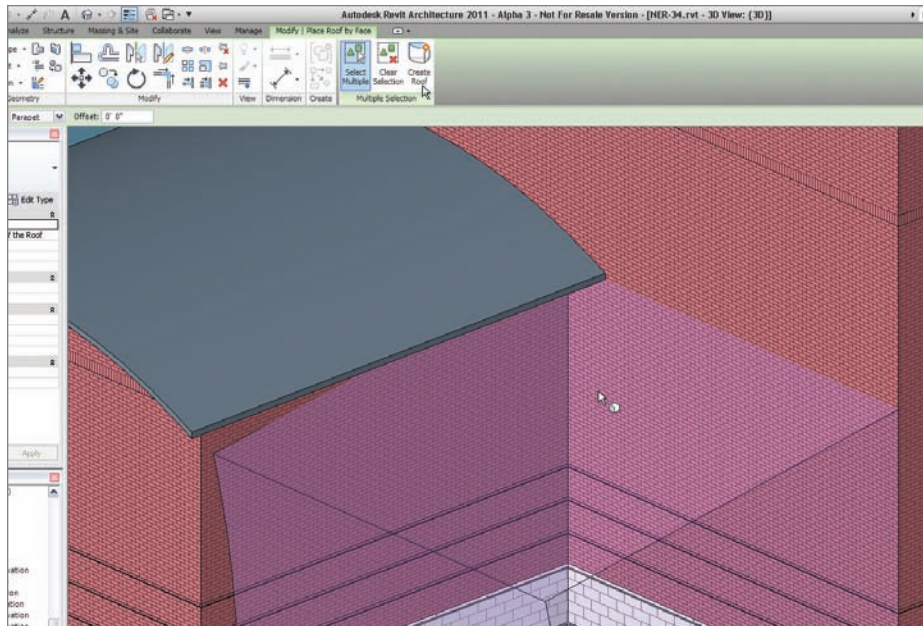

FIGURE 16.48 Creating the roof
16. Pick the top of the mass, as shown in Figure 16.48.
17. After you pick the top of the mass, click the Create Roof button, as shown in Figure 16.48.